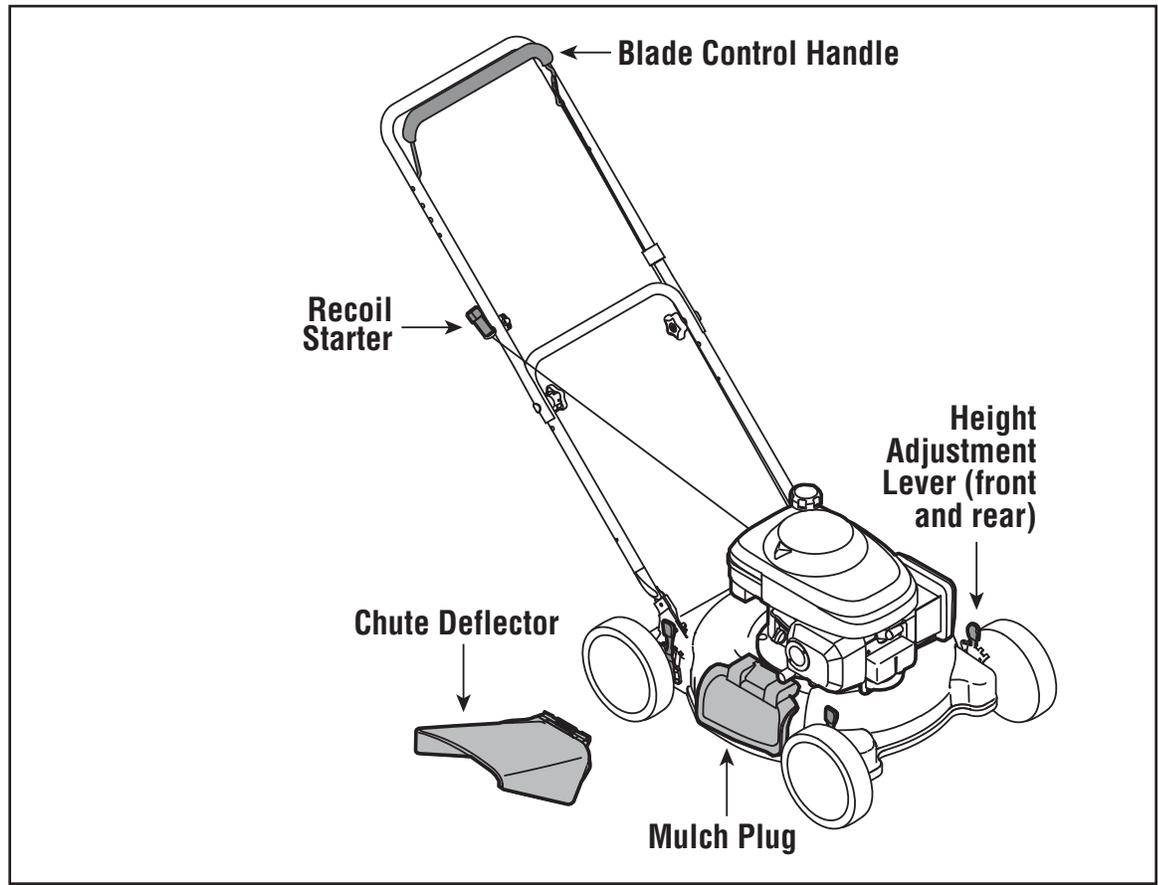

Figure 5-1
The blade control handle is located on the upper handle of the mower. See Figure 5-1. The blade control handle must be depressed in order to operate the unit. Release the blade control handle to stop the engine and blade.
4. Pull the starter grip lightly until resistance is felt, then pull rapidly to overcome compression, prevent kickback and start engine. Repeat if necessary. See Figure 5-1 *Do not allow the starter grip to snap back against the engine. Return it gently to prevent damage to the starter.*